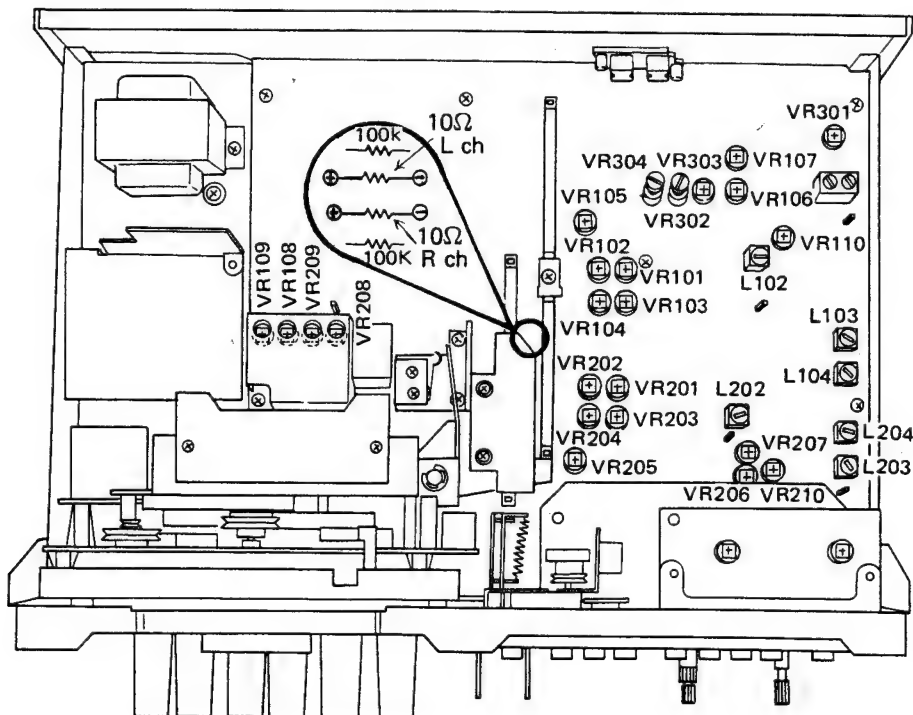

Fig. 8-3 Adjustment points
1. Connect a mV meter to both emds off 10ohm resistor as shown in Figure 8-3.
1. As was the procedure in 9.6, the section on recording current rough adjustment, connect a mV meter to both emds off 10ohm resistor as shown in Figure 8-3.